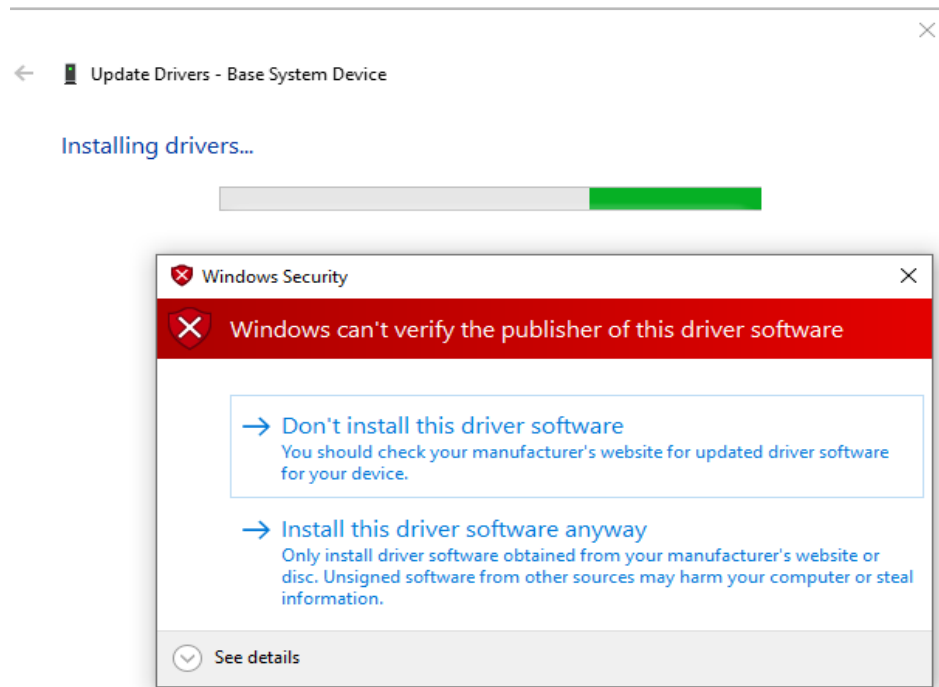

Figure 5.49. Windows Security in Device Manager
7. If user receive a Windows Security prompt, select **Install this driver software anyway** as shown in Figure 5.49.